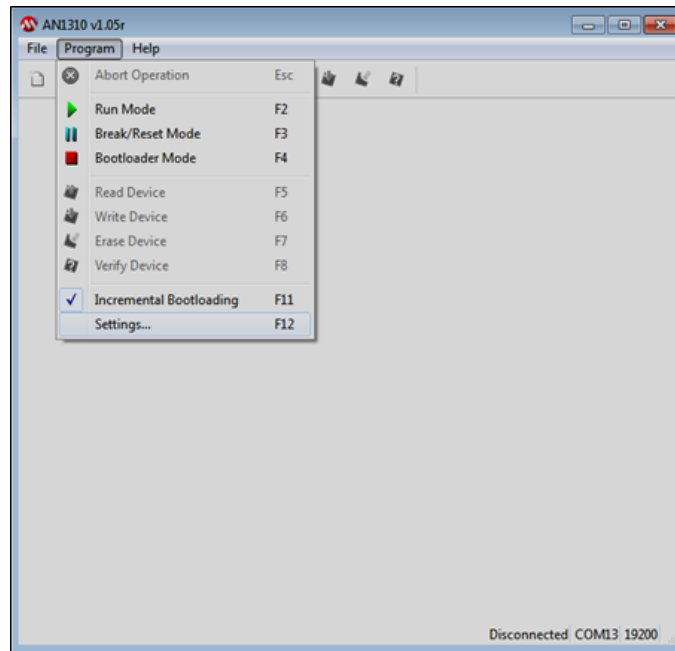
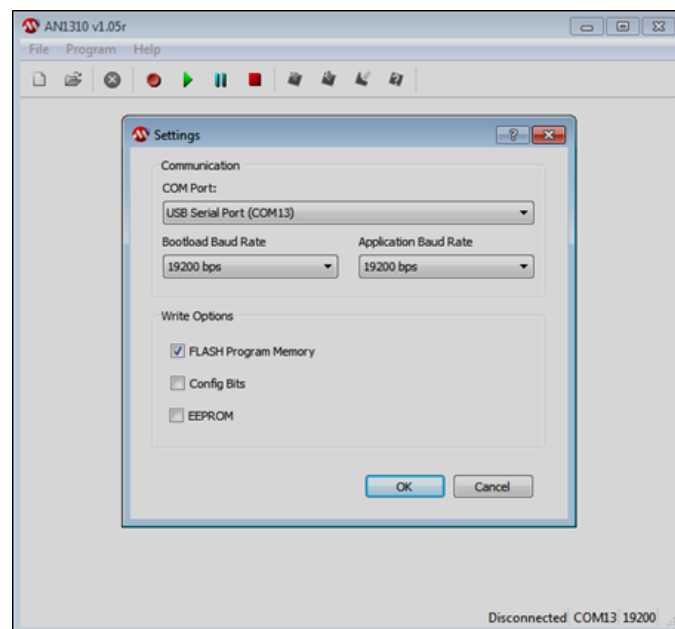
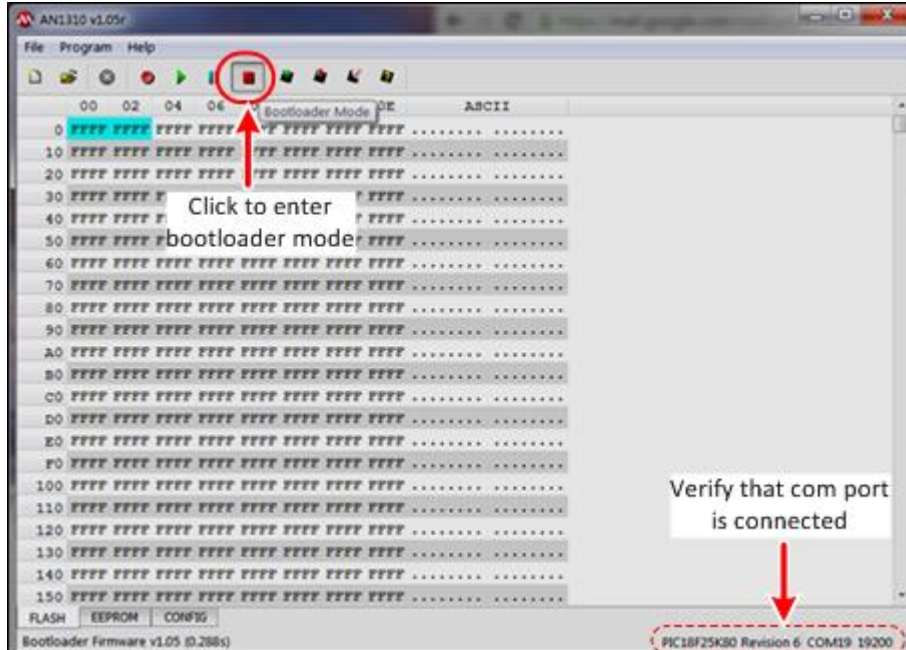

FIGURE 8-1 SERIAL BOOTLOADER PROGRAM – SELECTING “SETTINGS”
FIGURE 8-2 SERIAL BOOTLOADER PROGRAM – SELECTING COM PORT
FIGURE 8-3 SERIAL BOOTLOADER PROGRAM – CONNECTING TO HHT
STEP 5	Open the Serial Bootloader program – see Figure 8-1.
STEP 6	<p>Go to “Program -> Settings”.</p> <p>Choose the correct com port for the HHT and click on “OK” – see Figure 8-1 and Figure 8-2.</p> <p>Make sure that the COM port is connected – see Figure 8-3.</p>
STEP 7	Click on the red square button to enter bootloader mode – see Figure 8-3. Make sure that the bottom toolbar indicates that the HHT is connected.